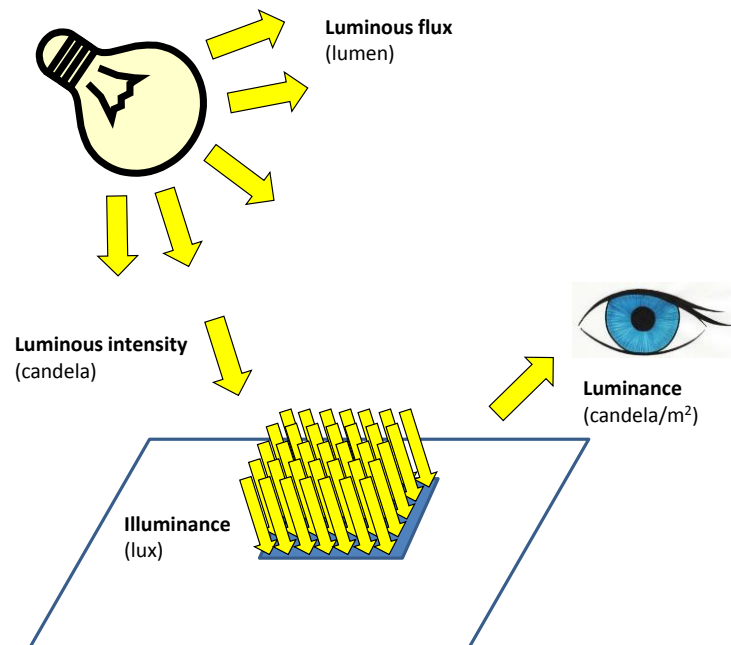

Fig. 5. Illustrative representation of different lighting quantities
- **Luminance (L):** is the luminous intensity per unit area of light travelling in a given direction [5]. It is defined as the quotient between the luminous intensity emitted by a certain surface in a given direction divided by the projection of the surface in that direction [1]. The unit for luminance in the SI is the candela per square metre ( $\text{cd}/\text{m}^2$ ). The eye sees 'luminance', the technical term for the brightness of a surface. It is dependent on the illuminance on the viewed surfaces, the reflective properties of the surfaces and the position of the observer [6]. Fig. 5 illustrates the intuitive meaning of the exposed lighting quantities.